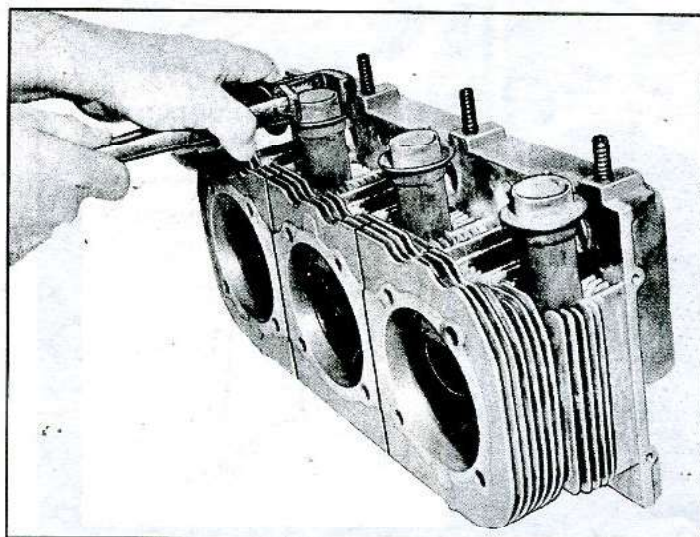

Fig. 86—Removing Exhaust Manifold Sleeves
1. Warm cylinder head to 200° F. then remove exhaust manifold sleeves with a suitable pipe wrench by turning gradually (fig. 86).